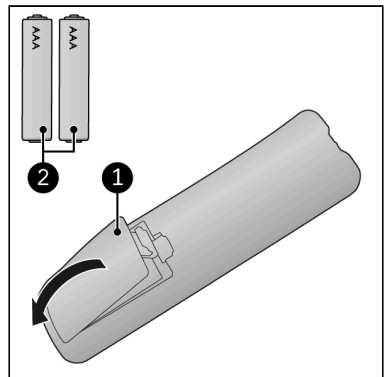

Figure 21.
1. Remove the battery cover (Figure 21, pos. 1).
2. Insert two batteries (AAA 1.5 V) (Figure 21, pos. 2) as indicated in the battery compartment. Make sure to insert the batteries correctly.